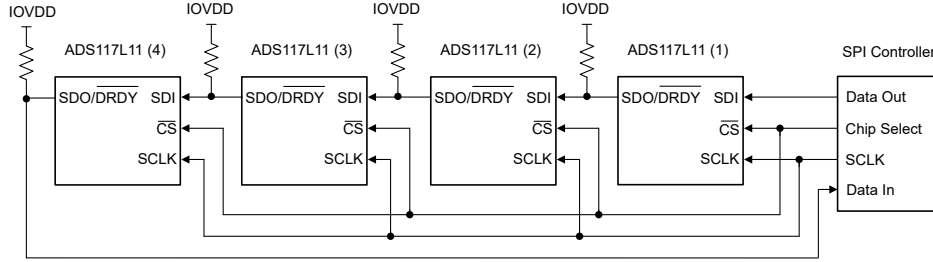

Figure 8-36. Daisy-Chain Connection
Figure 8-36 illustrates four devices connected in a daisy-chain configuration. The SDI of ADS117L11 (1) connects to the host SPI data out, and SDO/ $\overline{\text{DRDY}}$ of ADS117L11 (4) connects to the host SPI data input. The shift operation is simultaneous for all devices in the chain. After each ADC shifts out the conversion data, the data of SDI appears on SDO/ $\overline{\text{DRDY}}$ to drive the SDI of the next device in the chain. The shift operation continues until the last device in the chain is reached. The SPI frame ends when $\overline{\text{CS}}$ is taken high, at which time the data shifted into each device is interpreted. The SDO/ $\overline{\text{DRDY}}$ pin must be programmed to data output-only mode.
Figure 8-38 shows the detailed input data sequence for the daisy-chain write register operation of Figure 8-36. 32-bit frames for each ADC are shown (16 bits of data, with the STATUS and CRC bytes enabled). Command operations can be different for each ADC. The read register operation requires a second frame operation to read out the register data.
Figure 8-39 illustrates the clock sequence to read conversion data from the device connection in Figure 8-36. This example illustrates a 24-bit output frame (16-bits of data, with the CRC byte enabled). The output data of ADC (4) is first in the sequence, followed by the data of ADC (3), and so on. The total number of clocks required to shift out the data is given by the number of bits per frame × the number of devices in the chain. In this example, 24-bit output frames × four devices result in 96 total clocks.